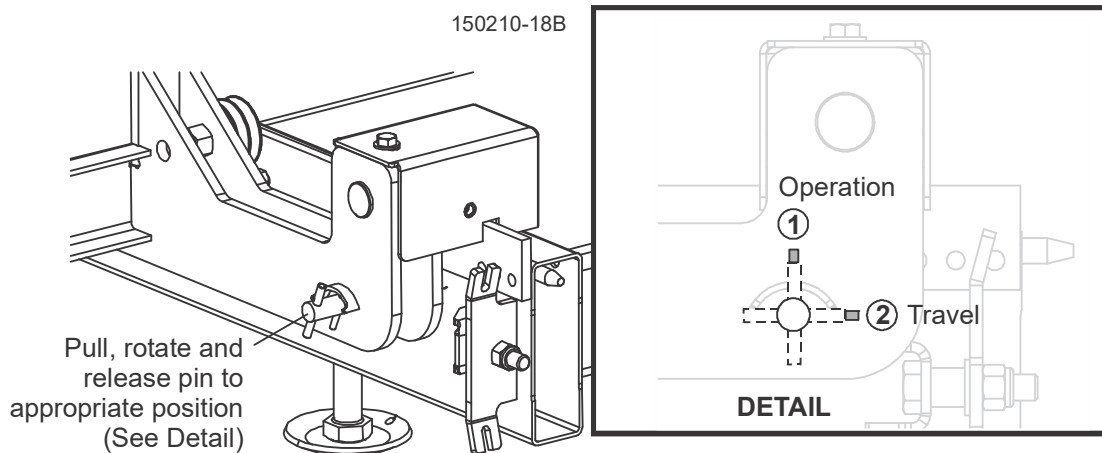

FIG. 3-7
- 3). The other pin should remain in the operation position to prevent the saw head from tilting. See FIG. 3-7.